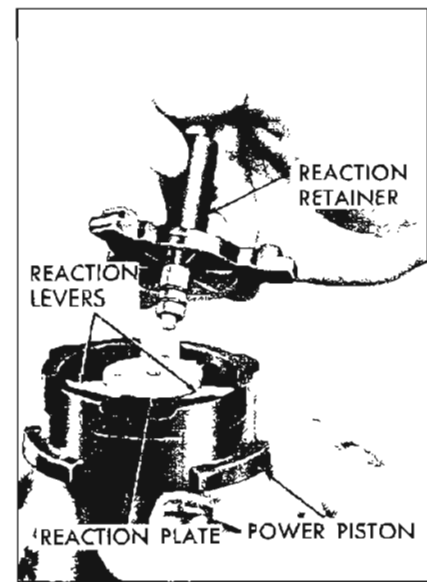

Figure 9-43—Removing Reaction Retainer
(3) reaction levers and air valve spring. Also remove the small reaction bumper and the air valve spring retainer from the air valve. See Figure 9-43.